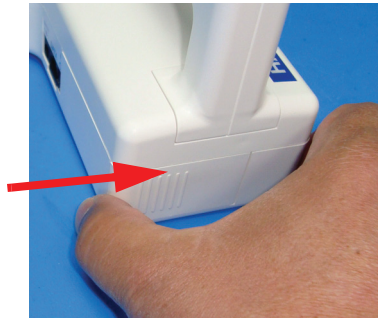

Figure 3-6 Secure the Battery Compartment Door
7. Slide the battery compartment door to the right until it clicks and latches. See Figure 3-6.